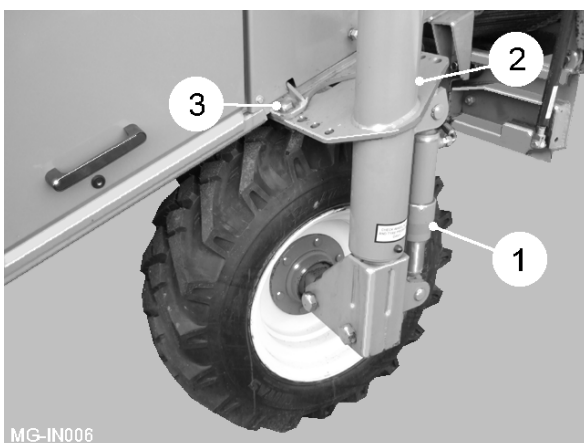
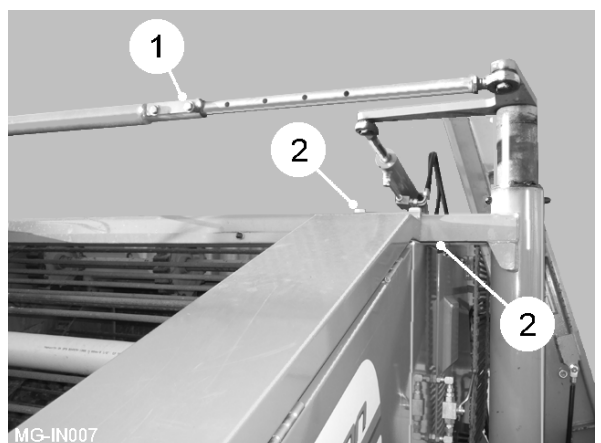
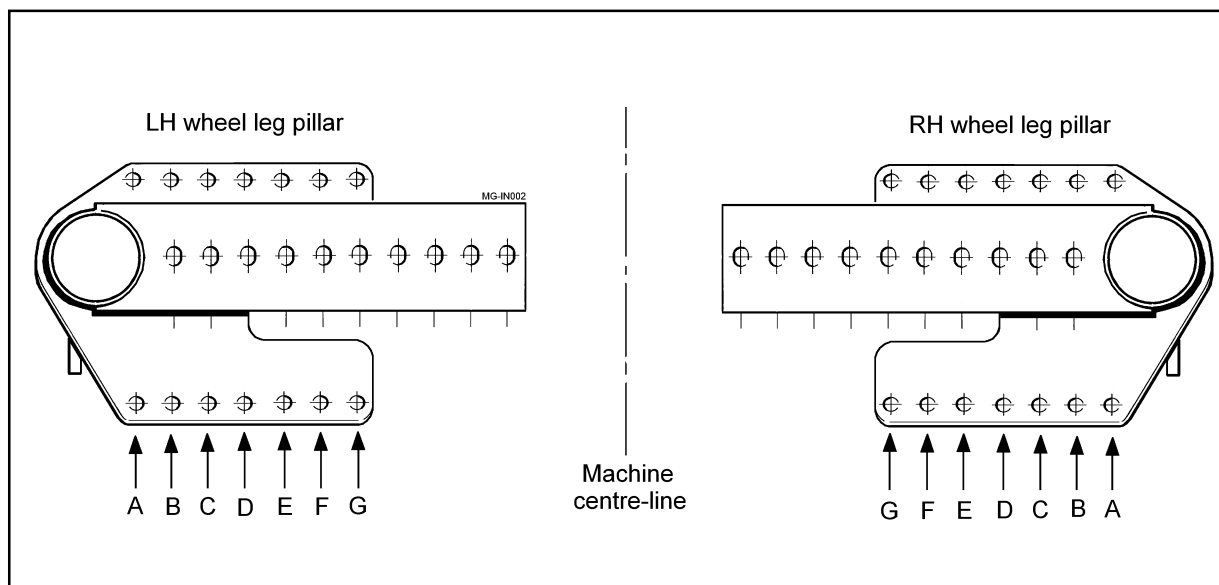

Fig 5
Fig 6
Fig 7
The two axle level switches operate the LH and RH levelling rams (item 1, fig 5). Moving the switch left will lower the LH side of the machine. Moving the switch to the right will raise the machine.
Each wheel is carried by a wheel leg pillar (item 2, fig 5) The pillars have a top and bottom flange plate containing a series of fixing holes. Moving the pillars in or out adjusts the wheel centres to suit the selected bed width. Both wheel legs must be set to the same hole positions so that the wheels remain symmetrical about the centre-line of the machine (see figure 7). Lifting equipment must be used when setting the wheels.
Release the track rod locking bolts (item 1, fig 6) and remove the flange plate mounting bolts (item 3, fig 5 & item 2, fig 6). Using lifting equipment, carefully slide the leg pillar to the required position. Refit the mounting bolts (item 3, fig 5 & item 2, fig 6) through the relevant hole in the flange plates. Repeat the procedure for the opposite wheel. Finally, set the track rod to the correct length and secure using the locking bolts. Ensure all nuts and bolts are fully tightened after adjustments have been completed.